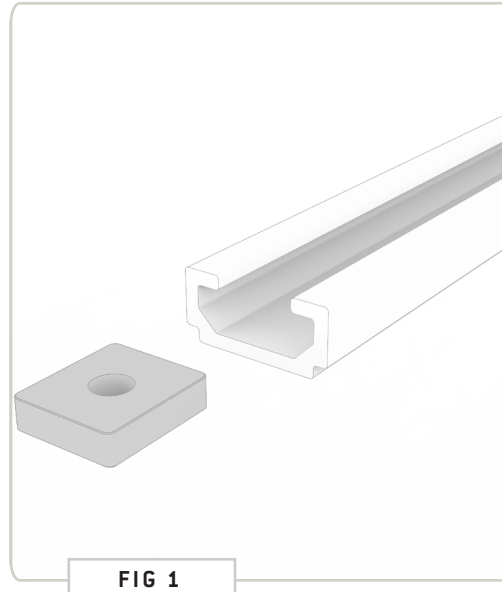

FIG 1
1.1 Install Rail Nuts: Slide (10) ten of the Rail Nuts into the passenger side factory roof rail, and (6) six into the driver side rail (FIG 1).